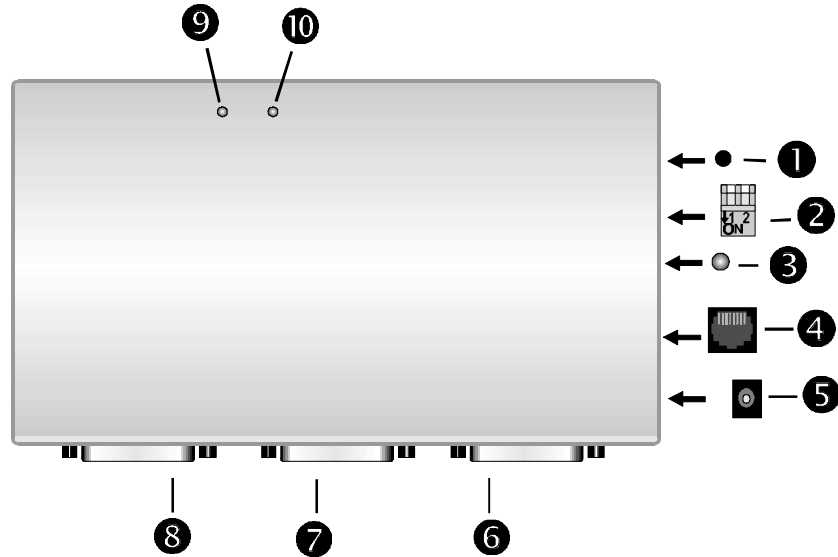

Figure 1 LANpress 3P/100
- A** Auto-Negotiation { XE "Auto-Negotiation" } allows the unit to determine the best configuration for sending messages over the network. In a network environment that has both 10BASE-T and 100BASE-T users, the LANpress 3P/100 determines which protocol to use on a case-by-case basis. This is the factory default setting. To enable Auto-Negotiation, set switch 1 on the switch block (shown in Figure 1) to the high position.